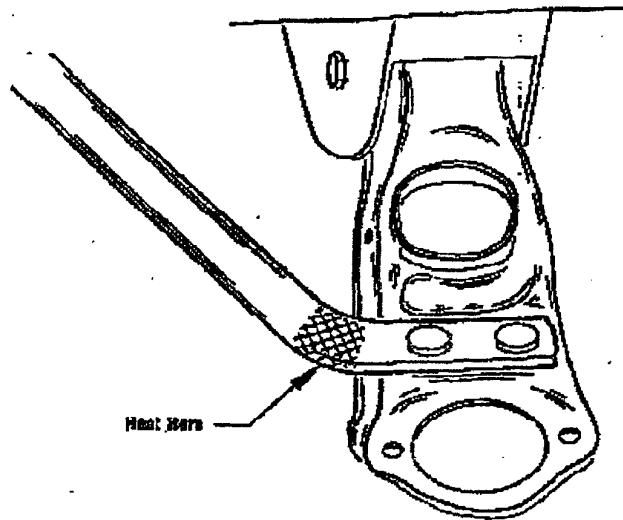
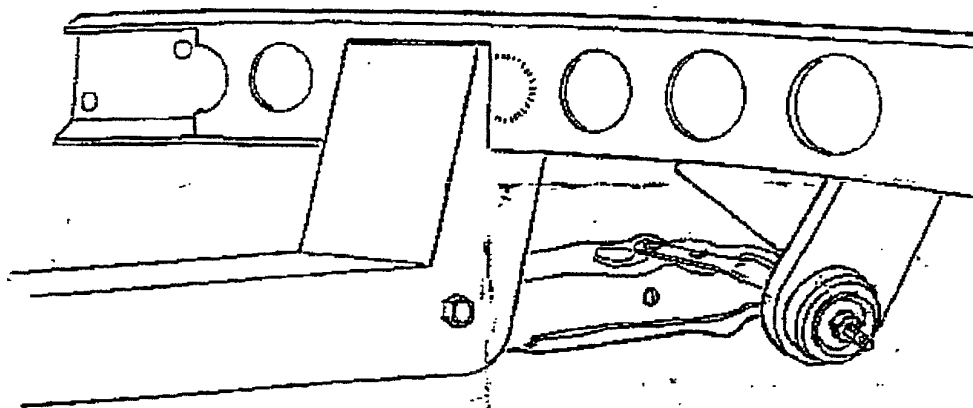

Figure 7
Figure 8
9. You will use the lower control arm and strut rod for locating the rear strut rod supports and gussets. Using a 2 x 4 and a C-clamp, install the control arm as shown in Figure 5. Also install the strut rod. Now, assemble onto the strut rod end the large rubber bushings, including the cupped washers, and the strut mount plate. Be certain to fully tighten the nut on the strut rod to its' fully seated position. (See Figure 6.) There are two rubber bushing sets available; the standard replacement and the improved set. We recommend the improved set, as it provides more stability to the front suspension. The Pinto and Mustang strut rods are different lengths. We recommend the use of Pinto strut rods, as they are shorter than the Mustang strut rods. You will find that with either strut rod the strut rod plate does not line up with the bottom of the frame rail. The strut rod must be heated in the area shown, and bent outward as shown in Figure 7. The rod is bent outward until the strut mounting plate lines up to the frame rail. You will find that because the Pinto strut rod is shorter, it requires much less bending. The strut rod will act as an alignment fixture while you tack weld the mount plate in place, then tack weld the gusset in place, as shown in Figure 8. Remove the strut rod, bushings, and arm, and finish welding to the frame and each other.